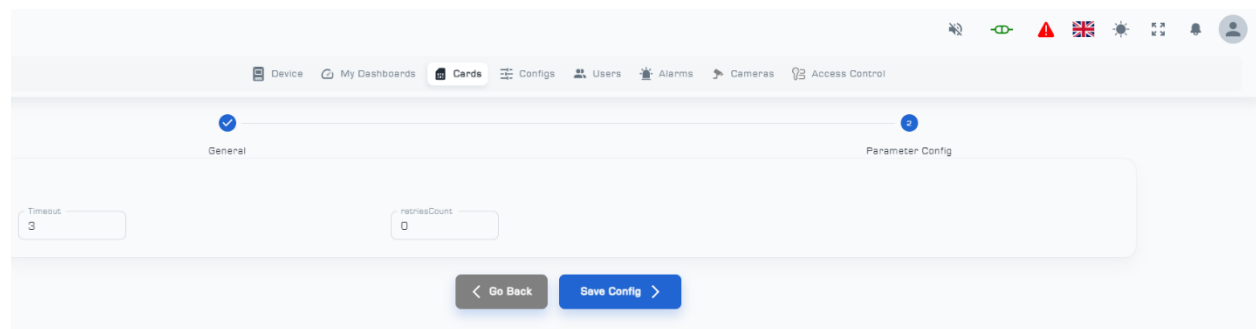

Figure 37: Second page of settings on the card
(4) Click on 'Next Step' for further configuration.
(5) Make the necessary changes in the 'Timeout' and 'retriesCount' sections (Figure 37).
(6) Finally, click on the 'Save Config' button to save the initial settings (Figure 37).